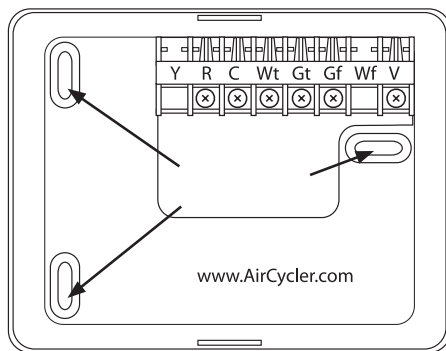

Figure 2
1. Remove the AirCycler® cover from wall plate (mounting base) to expose mounting holes. (Figure 2)